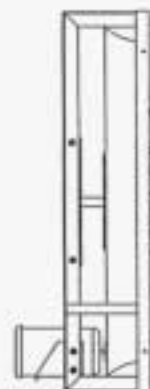

Figure 1
A. **Motor Mounting- NBF, NCF, NEF, & AL Models (See Figure 1)**
1. Remove motor bracket from its shipping position on fan frame. Attach motor bracket to motor (See Figure 1 for correct positioning of bracket to motor).